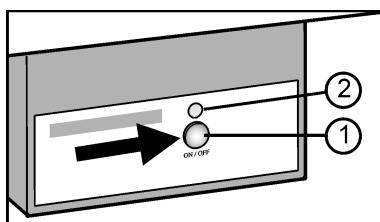

Fig. 15
- Press On/Off button Fig. 15 (1) so that the LED Fig. 15 (2) lights up.